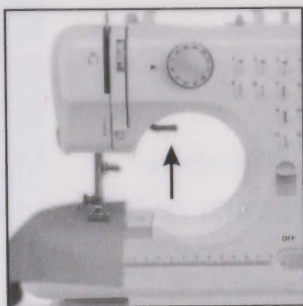

Fig.7
2. Raise the presser foot lifter and place the fabric you want to sew under the presser foot (Fig. 7).